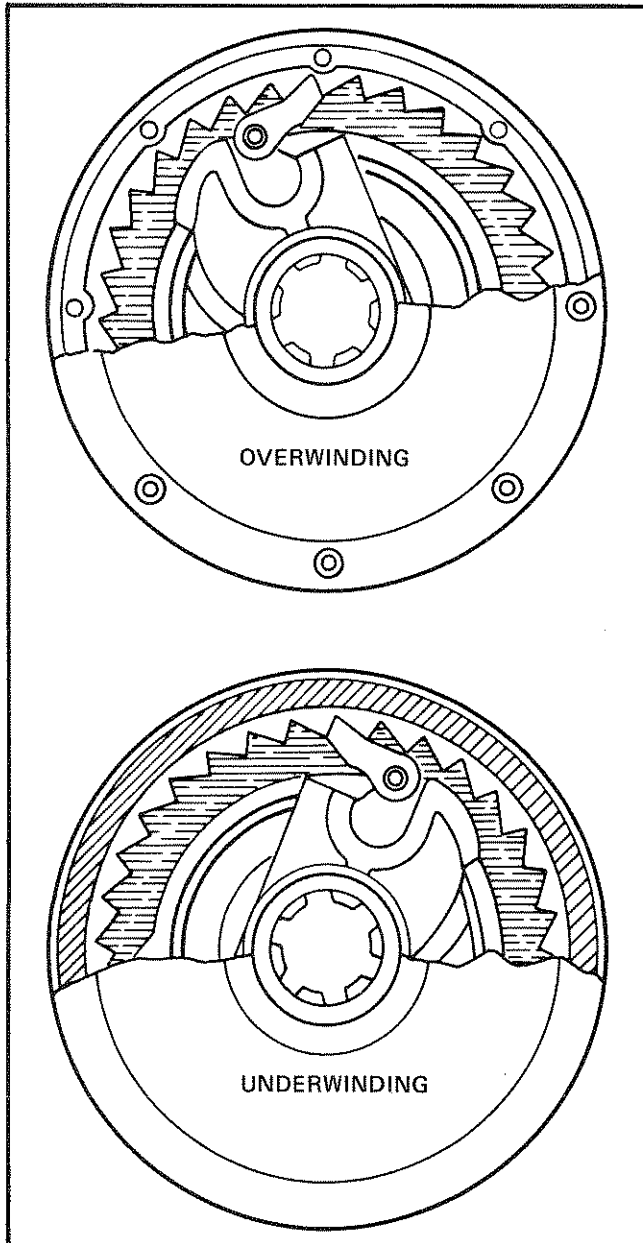

Figure 4-6. Automatic Brake Overwind and Underwind Arrangement
b. Automatic Brake (Optional). (See Figure 4-6). Remove the automatic brake assembly and re-install so that the word OVERWINDING is facing to the outside.